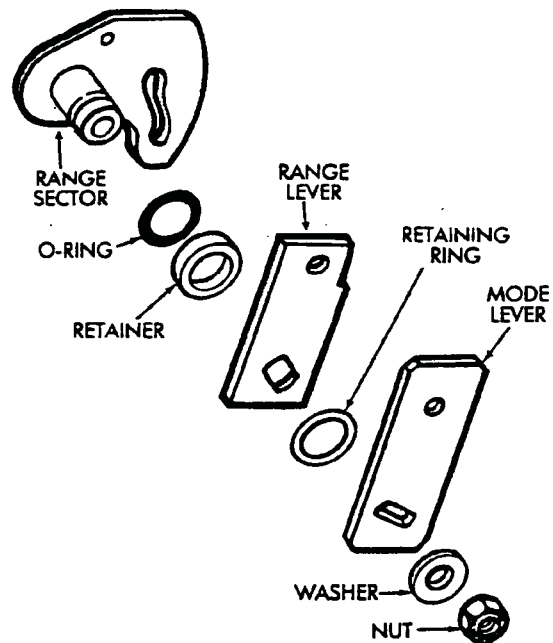

Fig. 4-43 Install Range And Mode Levers
32. Install retainer, range lever, retaining ring, mode lever, washer and nut on sector shafts (Fig 4-43). Tighten nut to 18 ft-lbs (24 N•m) torque.